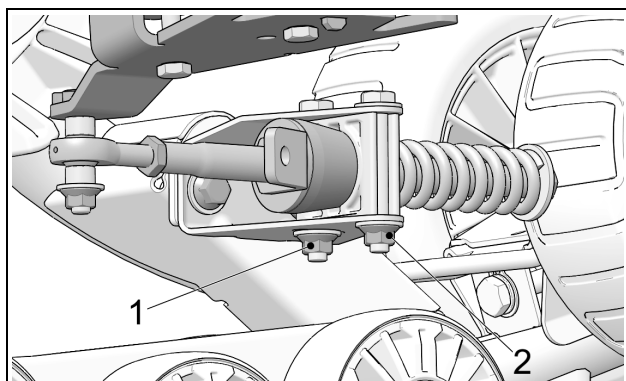

Figure 8
- Re-tighten anti-rotation bracket bolts (1) and (2) to 50 N•m [37 lb-ft] of torque. See Figure 8.